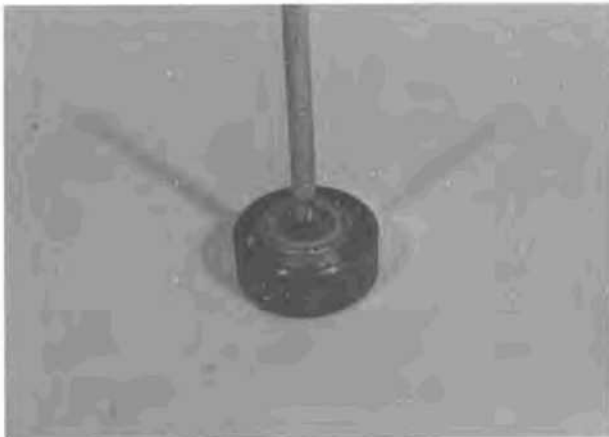
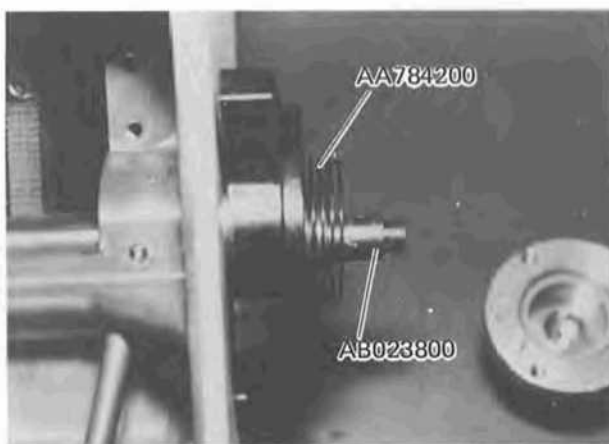

Fig. 4-19
Fig. 4-20
- Assemble Gear Units ZA078200, ZJ-078300, ZJ808800 and Plate AA783000 by tightening Screw 3PUK2.6x5SA and two Screws SK2.6x5SA. (See Fig. 4-19.)
- 4-2-11 Insert Shaft AB023800 of the Coarse Adjustment Knob (Fig. 4-19) from the right side into Pinion ZJ856400 which is attached to the Microscope Stand. (See Fig. 4-20.)
- 4-2-12 Hook Screw AA146300 located on Ring AA784100 into the circular portion at the end of Spring AA784200. (See Fig. 4-20.)
- a) Fit Screw AA146300 located on Fine Drive Shaft Mount AA872200 into the circular portion at the other end of Spring AA784200 (as shown in Fig. 4-20). While depressing the Fine Drive Shaft Mount lightly toward the Microscope Stand, turn it one rotation clockwise. (See Fig. 4-22.)